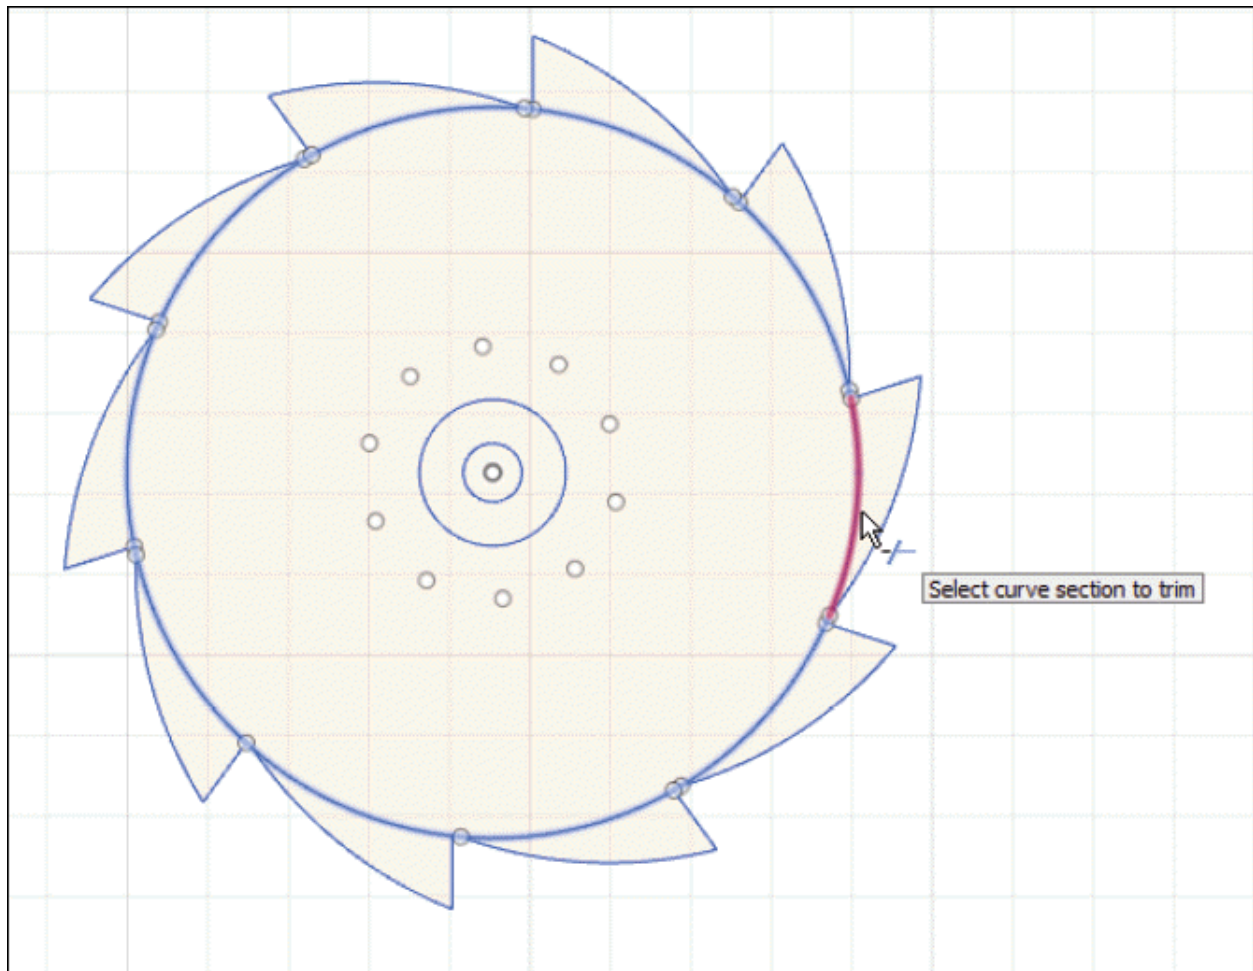

Figure-30. Trimming the extra entities
- Select the **Trim** tool from **MODIFY** drop-down and remove all the extra entities from sketch as shown in Figure-30.